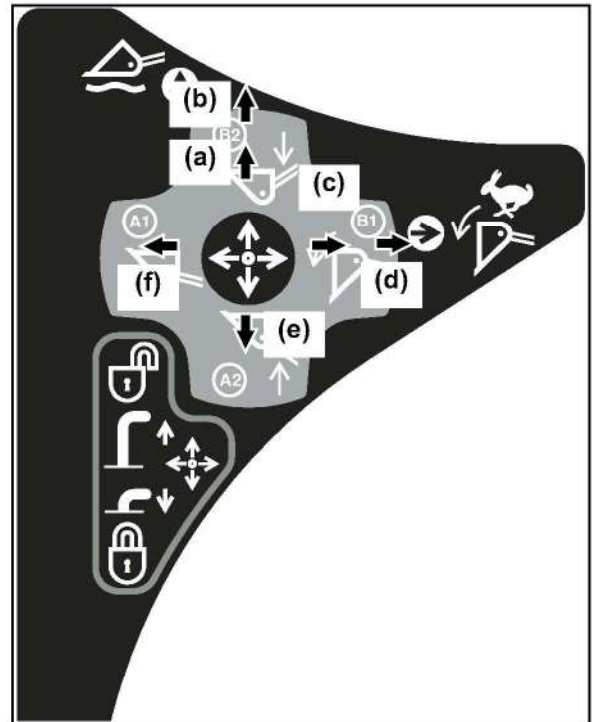

Fig 5-22
### (5) Implement control lever (Fig 5-22)